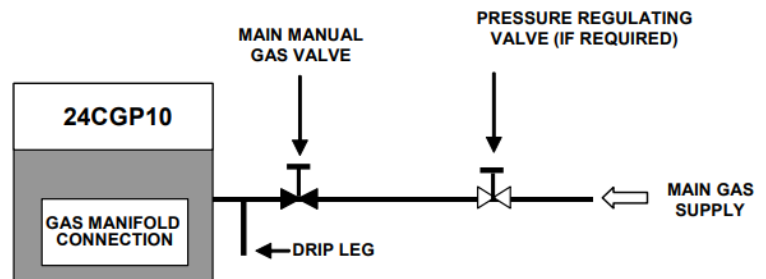

Figure 3-3
- c. If the gas or propane supply pressure exceeds 14" water column, a pressure regulating valve (pressure regulator) must be installed in the gas supply line to reduce pressure to this appliance. See Figure 3-3.
- a. Refer to Figure 3-3 for the recommended layout of the gas supply lines.
- c. The 3/4" NPT gas inlet is on the bottom of the 24CGP10. See Figure 3-3.
- e. Install a sediment trap (drip leg) in gas supply line. See Figure 3-3.